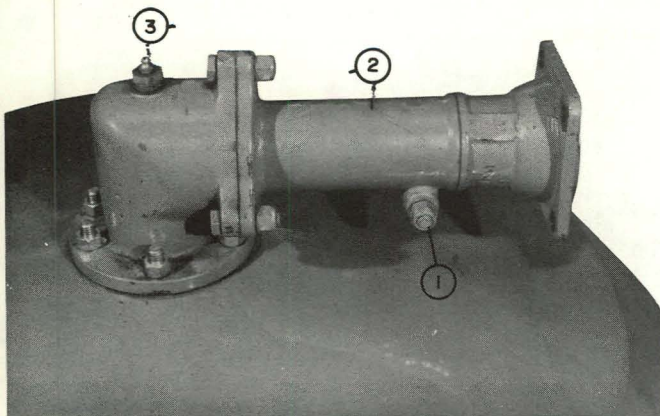

Fig. 3
The swivel action of the mower is regulated by the nut and bolt on the swivel casing. See fig. 3. Loosening the nut allows mower swivel action and tightening reduces the action. The swivel action should be only loose enough to allow the mower to follow ground contour.
3. Lubricate the gearbox through the grease fitting on top with a grease gun and general purpose grease every 40 operating hours. Add grease until it comes out around the rotor shaft under the mower deck. See fig. 3.